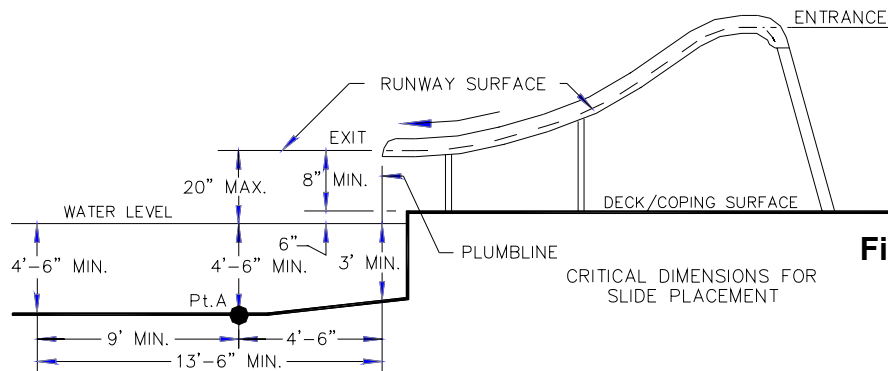

Figure 26
- 7) Ensure that the exit runway surface does not exceed 20 inches above the water surface, nor less than 8 inches above the deck/coping surface (see Figure 26 on page 18). The exit runway surface is measured at the point of transition between the runway and the beginning of the exit end radius.
- 1) The critical dimensions for placement of the slide are as shown in Figures 26 and 27.
- A. The slide exit runway surface shall not exceed twenty inches (20") above the water surface and not less than eight inches (8") above the deck/coping surface (see Figure 26).
- C. The minimum depth of water below the exit lip of the slide shall be three feet (3') and increases to four feet six inches (4'-6") at Pt. A which is a distance of four feet six inches (4'-6") from the exit lip of the slide. (See Figure 26).
- D. A minimum depth of four feet six inches (4'-6") shall be maintained at a distance of nine feet (9') along the extended centerline of the slide from Pt.A. (See Figure 26).
- 7) Observe the position of the exit of the slide as shown in Figures 26, 27 and 28 on pages 18 and 19.